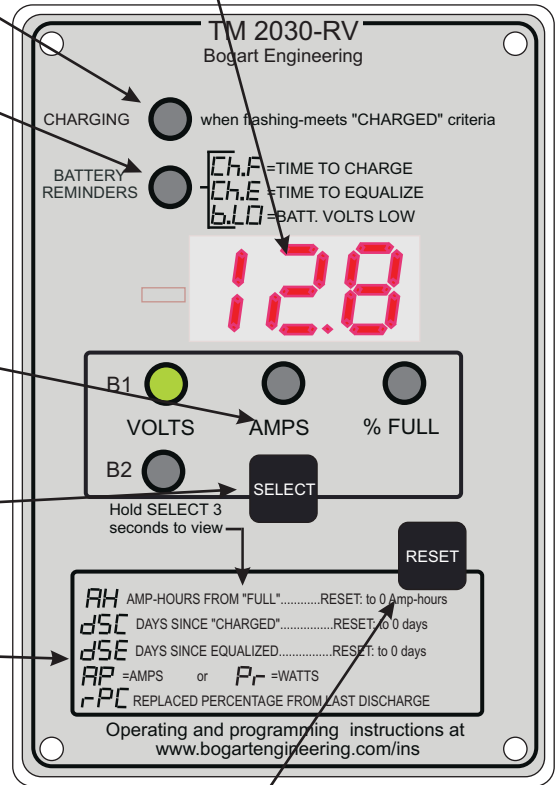

FIGURE 1
2. Basic instructions for Operating Level L1: Refer to figure 1 which covers basic operation. It also has references for further information. **Note that “% full” will display only 3 dashes until system is fully charged for the first time.**
dSE Days since the battery was equalized. “Equalization” refers to occasionally overcharging a battery to help it maintain its capacity. It is usually recommended only for liquid electrolyte lead acid batteries, not AGM or Gel types. This display is intended to remind you when to equalize your batteries if this is not done automatically by your charging system. It is essentially just a manual timer, that reads in DAYS, so that you can see how long it has been since your batteries were equalized. Each day when not reset will advance by 1.00 day. Then it must be **MANUALLY RESET** by you when you take action to equalize the batteries. For how to reset this, refer to Figure 1, in reference to the RESET button.
2.2.2. “Ch.E” (Charge Equalize) See the end of Section 7 for a discussion of equalization. This display will blink “Ch.E” as a reminder to equalize batteries, (typically monthly) should you choose to use it. Set the display interval in days, or turn this feature off by using program P6, see table 2. After you accomplish equalization you must manually reset the “Days since equalized” number to zero to stop the blinking. First: access the “dSE” display as described in figure 1. Then use the RESET button. After the equalization period elapses it will blink again